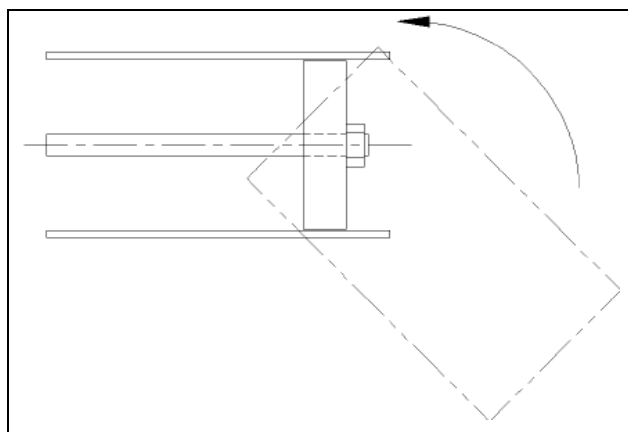

Figure 5: Assembling Cylinder
6. Slide the Cylinder Tube (C13) over the Piston (C10). The Piston Seal (C11) must be well lubricated. Start the Cylinder Tube (C13) at a 45° angle and rotate it into position onto the Piston (C10). See Figure 5.